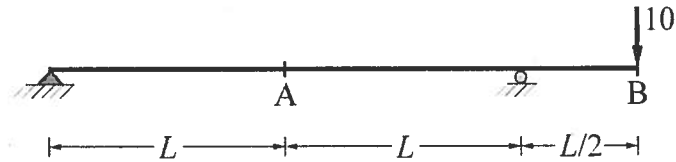

Figure 3: Simply supported girder with overhang under force at the tip
1. Determine the bending moment distribution and draw the bending moment diagram in terms of L knowing that the concentrated force of 10 units at the tip of the overhang in Fig. 3 causes an *upward translation* of the midspan point A by $1.25 \cdot 10^{-2}$ units and a *downward translation* of the point B of load application by $2.083 \cdot 10^{-2}$ units.